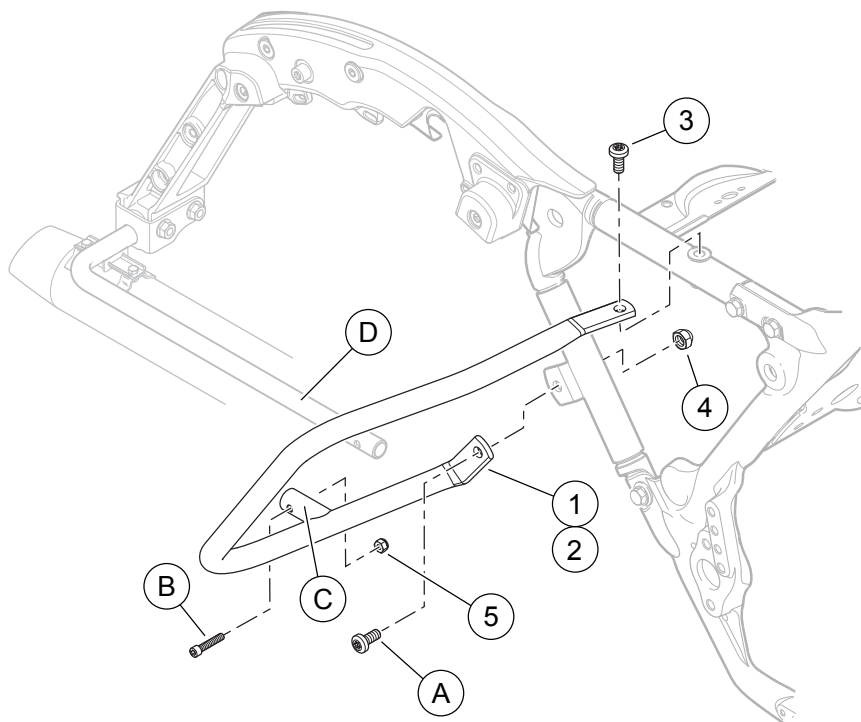

Figure 1. Service Parts, Saddlebag Guard Kit
See Figure 1 and Table 1.
3. See Figure 1. Remove the 1/4-20 hex socket screw (B) and locknut (5) securing the short tube (C) on the saddlebag guard (1 or 2) to the front of the saddlebag support tube (D). Retain the screw for later assembly. The locknut can be recycled or properly disposed of.
4. Remove the 3/8-16 TORX[®] screw (A) and locknut (4) retaining the bottom of the saddlebag guard to the frame downtube. Retain the screw for later assembly. The locknut can be recycled or properly disposed of.
5. Remove and recycle the 3/8-16 TORX screw (3) retaining the top of the saddlebag guard to the upper frame tube. Carefully slide the short tube away from the saddlebag support tube, and remove the guard from the vehicle.